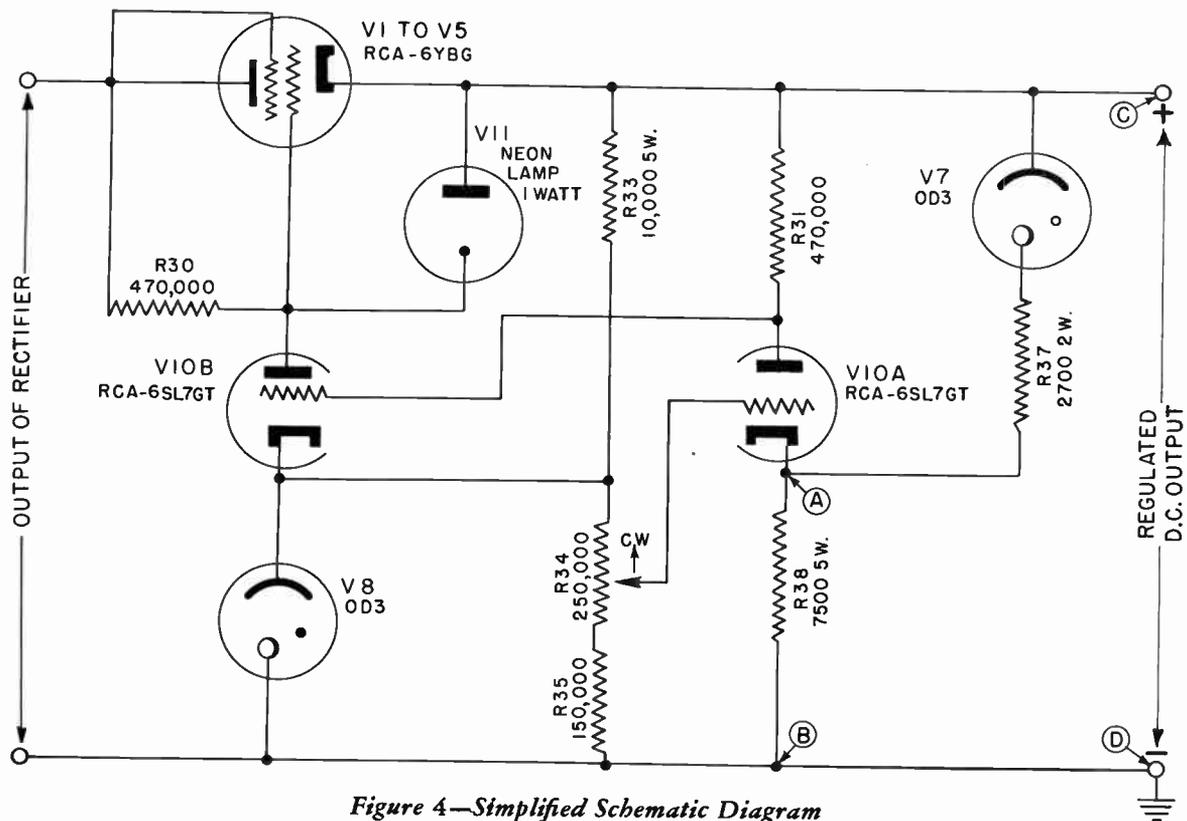

Figure 4—Simplified Schematic Diagram
b. A simplified diagram of the voltage regulating circuit is shown in Figure 4. V1 to V5 in this